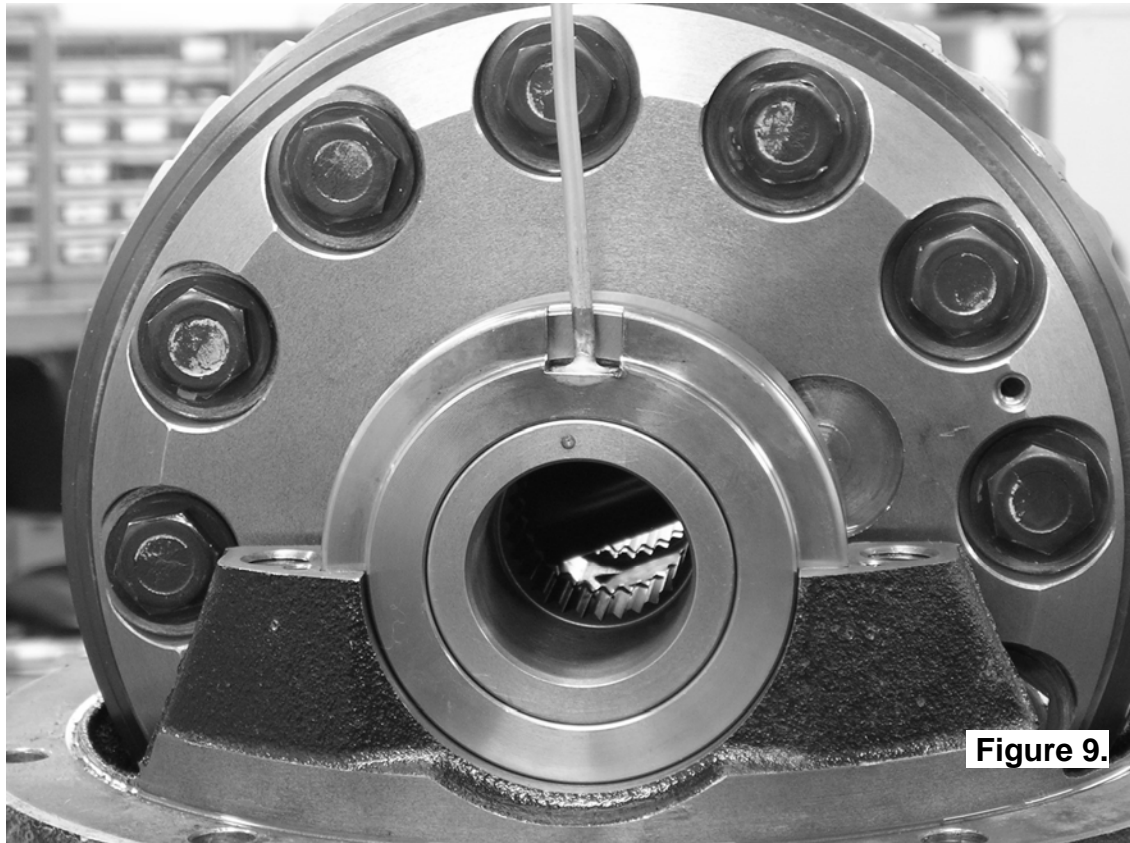

Figure 9.
- Reinstall the *Air Locker* into the differential housing, ensuring that the seal housing is positioned so that the tube will point straight up through the hole in the bearing cap (Fig. 9.)